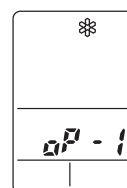

Fig. 8b
- After a few seconds, “✿” appears and “oP-1” blinks in the remote controller display area. (Fig. 8b)